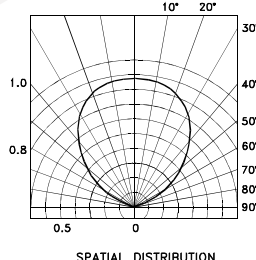

Fig.2 Collector Current Vs. Forward Current
- 1.The condition and arrangement of the reflective object are shown below.Fig.1, Fig.2, Fig.3, Fig.4, Fig.5 and Fig.9 in the same condition.